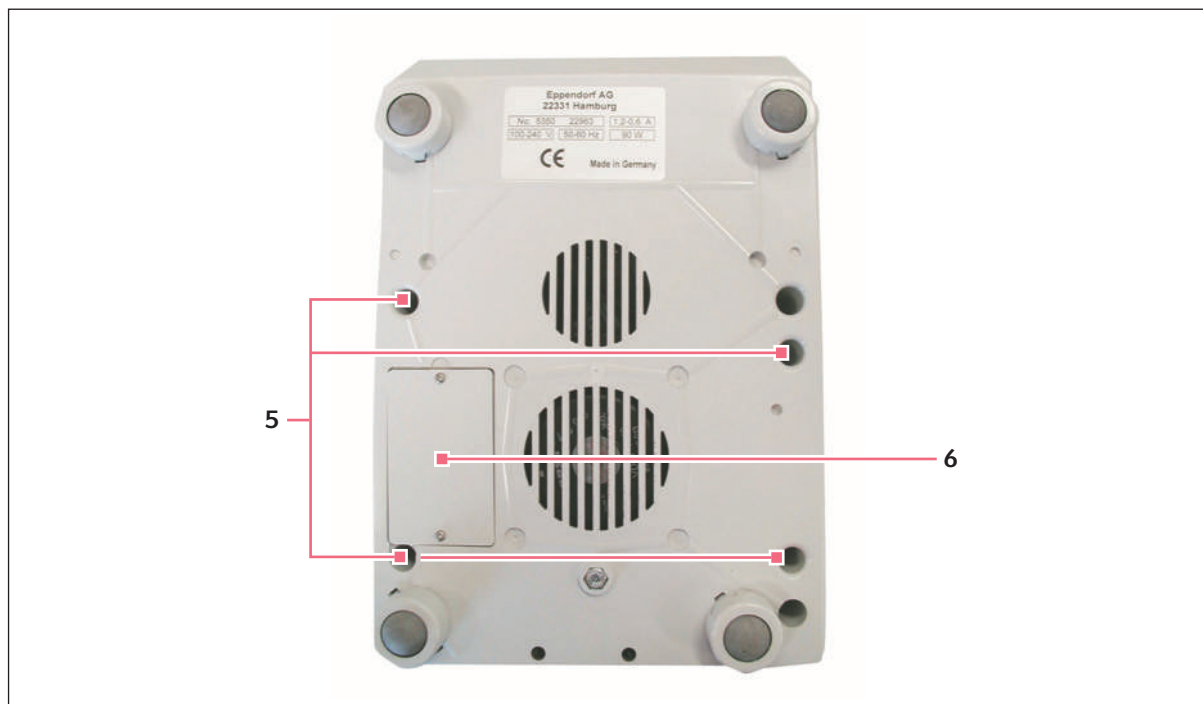

Fig. 6-2: View from below
2. Remove the cover plate (see Fig. 6-2 on p. 24).
2. Remove the four housing screws (see Fig. 6-2 on p. 24) inside the sinkings.